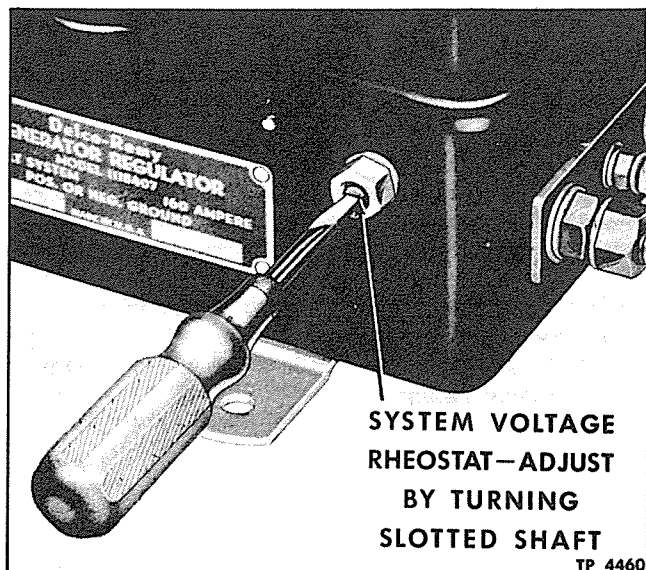

Figure 18—System Voltage Adjustment
2. Set system voltage rheostat (fig. 18) on side of regulator to halfway position. The halfway position is located by turning slotted screw
12. Turn slotted screw of system voltage rheostat (fig. 18) to extreme left and then to extreme right and note if voltage varies smoothly in both directions. (If voltage varies unevenly or erratically, rheostat is faulty and should be replaced). Turn screw back until voltage is again at specified value. System voltage can be adjusted within a range of approximately 3 volts, if necessary, without changing any mechanical adjustments or removing cover of regulator.